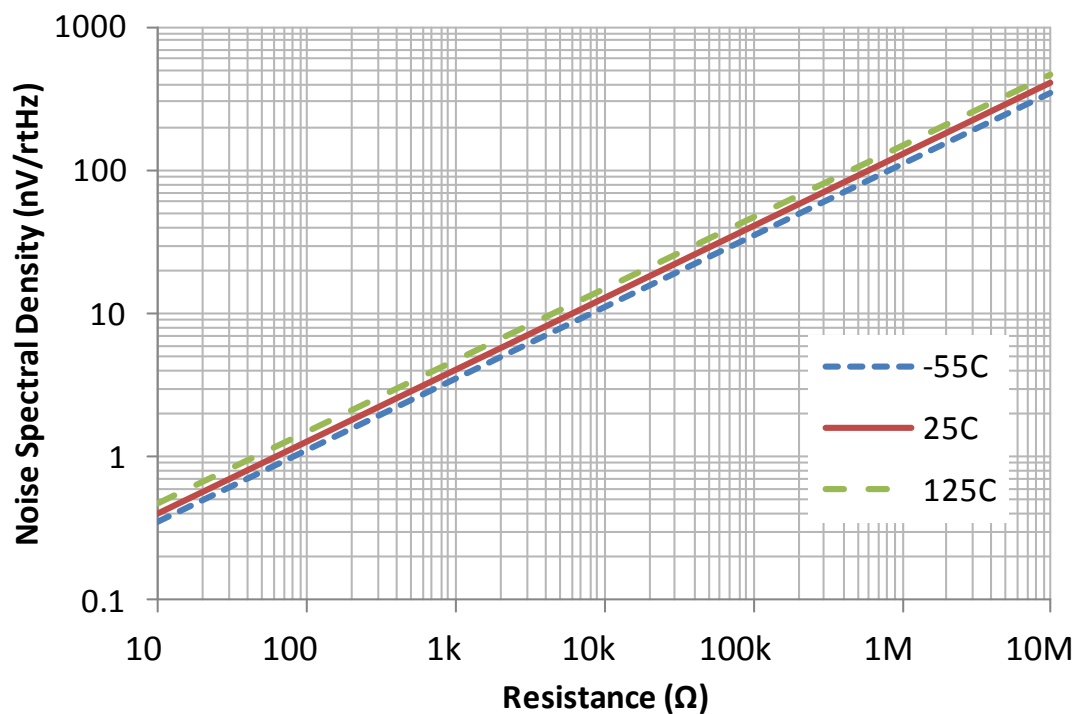

Figure 3: Resistor to Noise Spectral Density Curve
4. Resistor noise from Feedback Network – This can be a significant source of noise. In this case the resistance of the feedback network was selected to minimize noise. Figure 3 displays a convenient way to translate resistor values to spectral density.